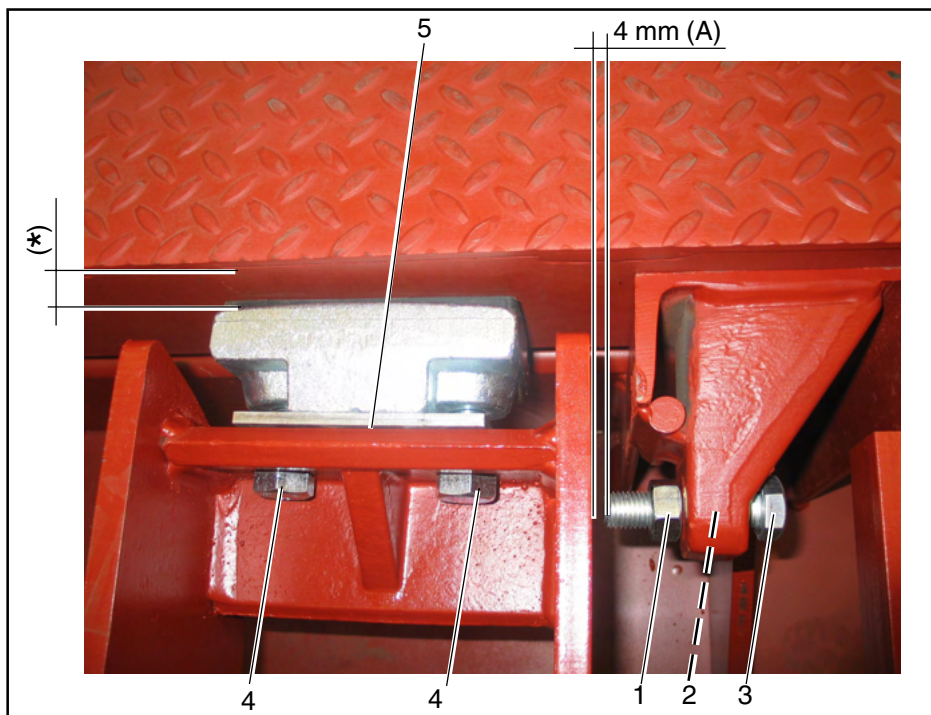

Fig. 8.2 Adjusting oscillation
- make sure gap "A" (fig. 8.2) is 4 mm wide; on the contrary, loosen locknuts "1" and "2" and turn screw "3". After adjusting, tighten locknuts "1" and "2" and refit the hatches